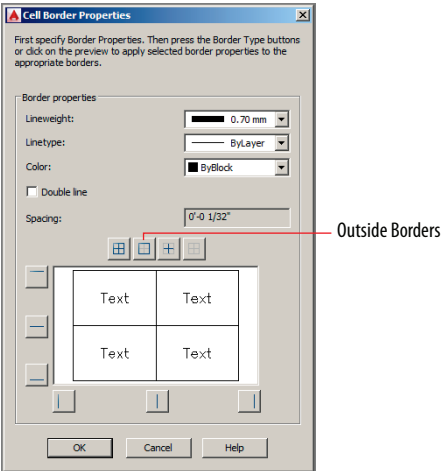

FIGURE 15.31 Changing cell border properties
- 12. Select cell ABC1, hold Shift, and select cell C6 to activate all the table's cells. Click the Edit Borders icon in the Cell Styles panel. Open the Lineweight drop-down menu, and select 0.70 mm. Click the Outside Borders button to apply the properties and click OK (see Figure 15.31). A thicker line will appear around the outside borders of the table when the layout is plotted. Click outside the table to deselect it.